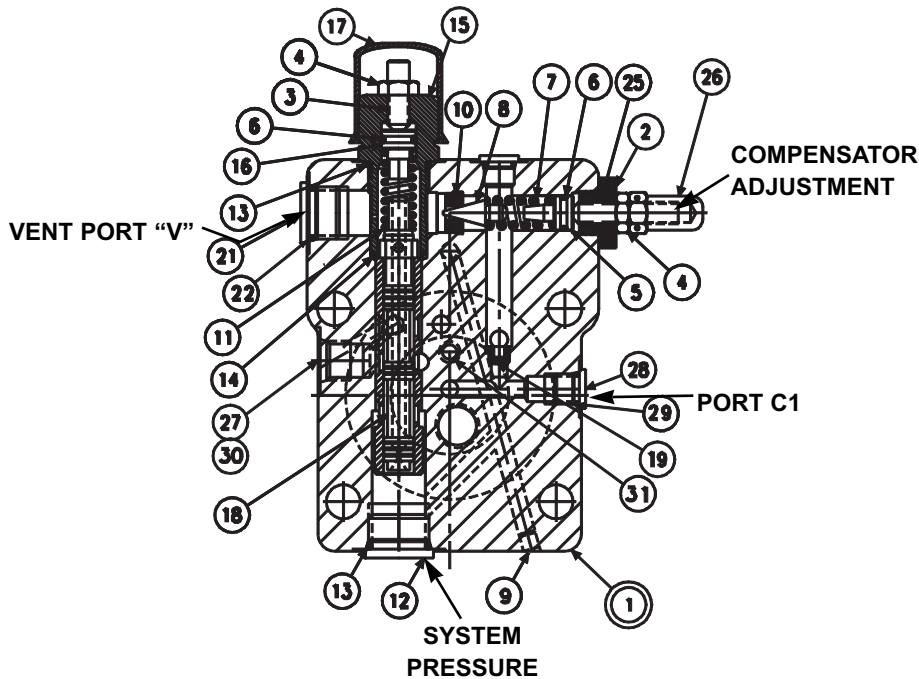
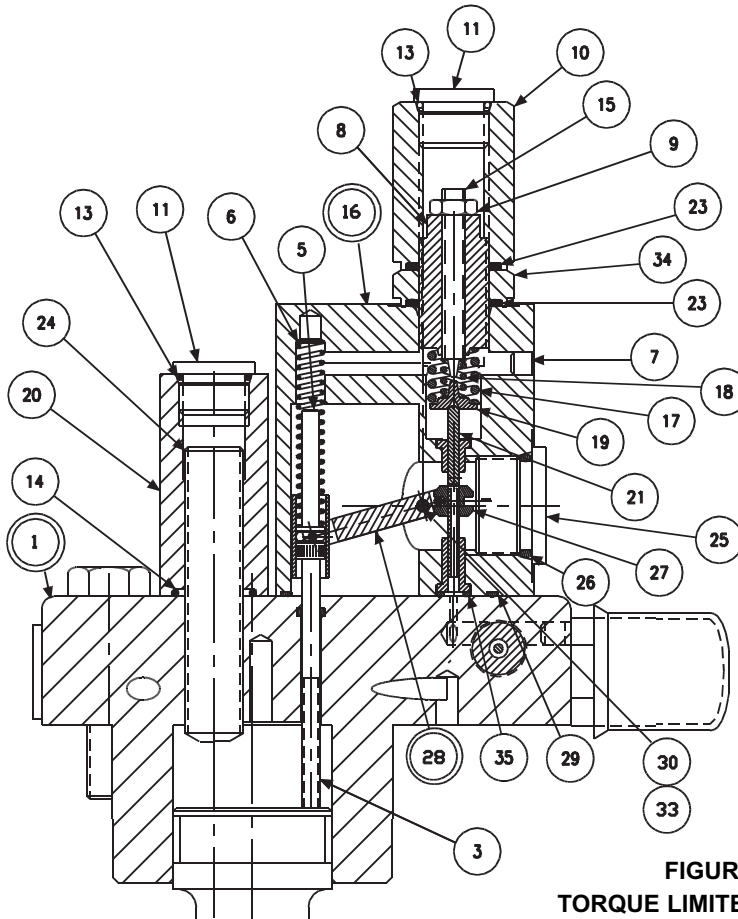

FIGURE 28
FIGURE 29
PARTS LIST FOR FIGURE 28
PARTS LIST FOR FIGURE 29
1. See figure 29. Remove 2 screws holding torque limiter body (16) to cap assembly (1).
2. Remove all parts from torque limiter body (16) except pin (30) and arm assembly (28). It is not necessary to remove these parts unless broken or worn. Examine parts for wear or damage.
3. Remove screw (3). Examine head for excessive wear, and body for smooth sealing surface with O-ring.
4. See figure 28. Remove maximum volume stop assembly (items 11, 13, 14, 20, 24).
5. Remove cap assembly (1).
6. Remove plug (15) and attached parts. Remove spring (11) and spool (18).
7. Remove adjusting plug (2) and attached parts. Remove seal piston (5). Note: a 10-24 screw may be attached to assist in pulling the piston. Remove spring (7) and cone (8).
8. Do not remove sleeve in body (1). Sleeve is pressed into cap and finished to size. If sleeve, snout or cap is worn, replace the cap-sleeve assembly (1).
9. Examine seat (10) for wear. Do not remove unless damaged.
1. See figure 28. Install Avseal plugs (9), plug (19), .032", 0,81 mm orifice (30).
2. Press seat (10) into bore squarely against shoulder in bore.
3. Install spool (18) into bore as shown. Install spring (11) over end of spool. Install O-ring (6) on seal piston (16). Lubricate and install into plug (15). Install O-rings (13) and (14) on plug (15) Install plug (15) into cap. Install screw (3), nut (4) and cover (17).
4. Install O-ring (6) on seal piston (5).
5. Lubricate O-ring and install cone (8), spring (7) and seal piston into bore in cap (1), being careful that cone enters seat (10). Install adjustment plug (2), screw (25), nut (4), and acorn nut (26).
6. Install plugs (12), (21) and (28) and torque.
7. Carefully install O-ring (31) into the cap.
9. Install maximum stop screw (24), nut (20), O-ring (14) and plug (11) with O-ring (13).
10. See figure 29. Apply thread locking compound on threads of screw (3), lubricate the shank, thread through the cap into the control piston, and torque to 5 lb.*ft., 6,78 Nm.
12. Press dowel (30) into body (16), through the link assembly (28), to 1/4", 6,35 mm below surface. Apply hydraulic sealant to threads of screws (33) and install over dowel (30).
13. While sleeve (27) is engaged into dowel on link (28), slide spool (21) into bore of body (16), and through sleeve (27). Spool (21) must move freely and easily at all positions of the link (28).
14. Assemble remaining parts per drawing. Torque plug (11).
15. While spring retainer is engaging clevis pin (5) under dowel of link (28), slide the other opening of spring retainer over the top of the screw (3). Attach body assembly (16) to cap (1) and torque assembly screws to 75 lb.*ft., 102 Nm.